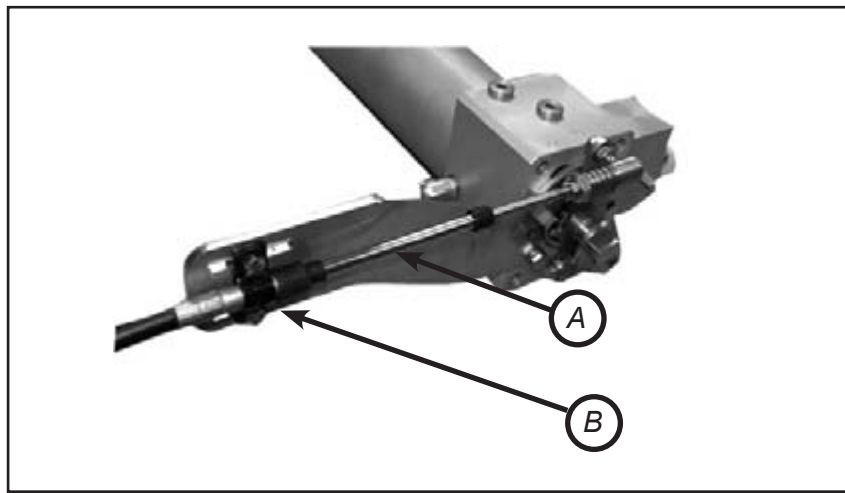

Figure 3.3.2-1
The reversing deflector is controlled (cf. figure 3.3.2-1) mechanically with a cable (A) which operates the valve regulator (B).